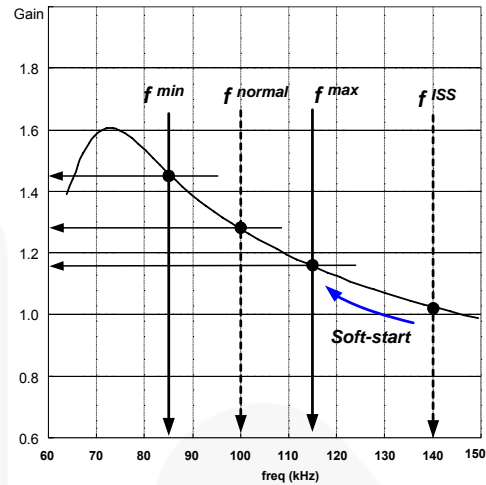
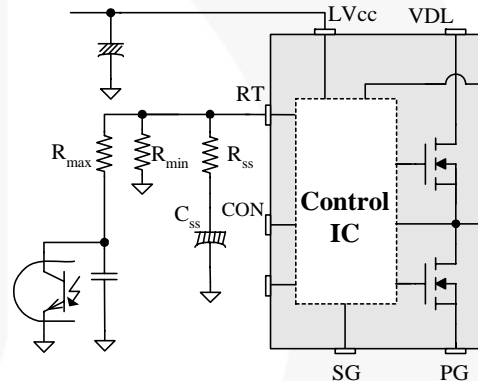
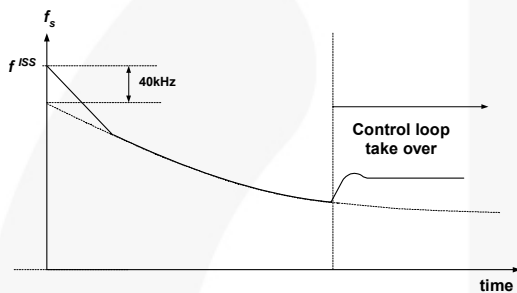

Figure 18. Resonant Converter Typical Gain Curve
Figure 19. Frequency Control Circuit
Figure 20. Frequency Sweeping of Soft-start
**3. Frequency Setting:** Figure 18 shows the typical voltage gain curve of a resonant converter, where the gain is inversely proportional to the switching frequency in the ZVS region. The output voltage can be regulated by modulating the switching frequency. Figure 19 shows the typical circuit configuration for  $R_T$  pin, where the opto-coupler transistor is connected to the  $R_T$  pin to modulate the switching frequency.
in Figure 19. FSFR-series also has an internal soft-start for 3ms to reduce the current overshoot during the initial cycles, which adds 40kHz to the initial frequency of the external soft-start circuit, as shown in Figure 20. The initial frequency of the soft-start is given as: